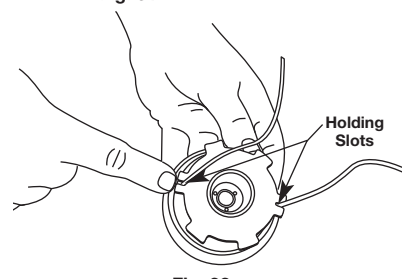

Fig. 32
12. Insert the ends of the line into the two holding slots (Fig. 32).